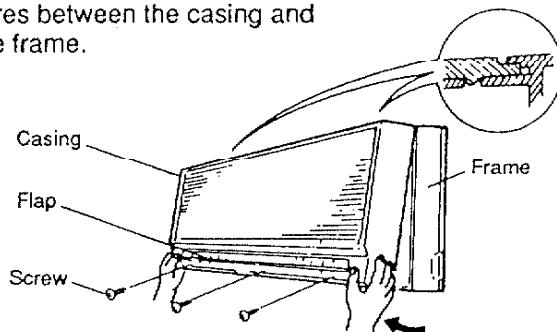

Fig. 2
- 3) Remove the casing as shown in the Fig. 2